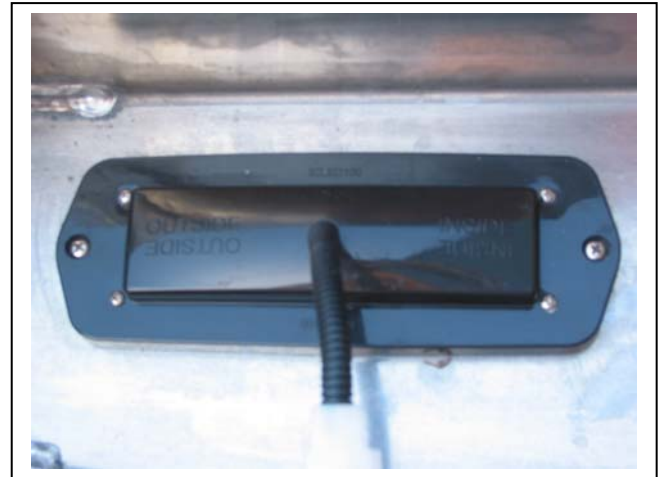

Figure 1
7. Fit ECB LED indicator / park lights (supplied) into protection bar as per instructions supplied with the LED indicator kit. **NOTE: Ensure park light is to outside. See figure 1.**